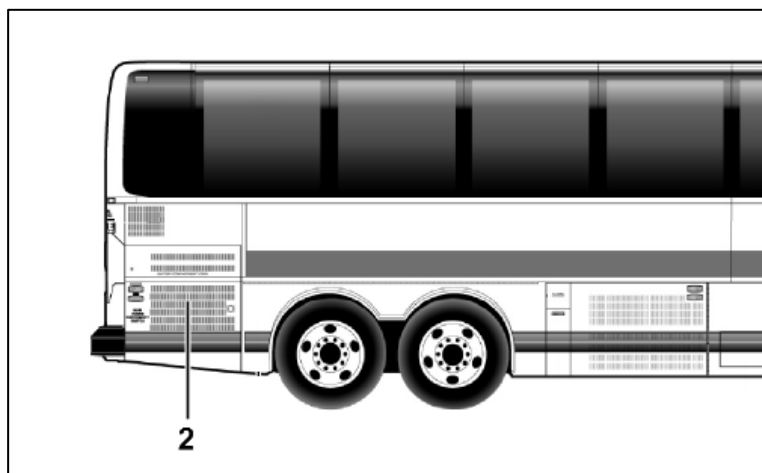

Figure 1
- A. Open curb side engine compartment door. (Item 2, Fig. 1)